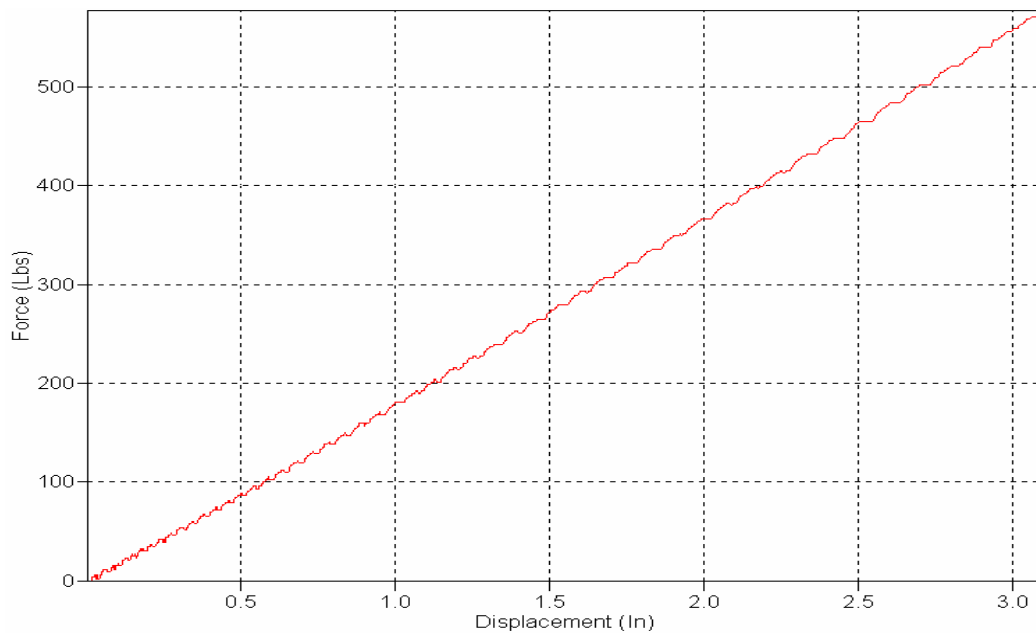

figure:12
**Raw Force vs Displacement** (figure:12) This graph shows the collected force values compared to displacement without the internal filtering that is built into the program. All other graphs are filtered to eliminate electronic noise that hurts the repeatability of the data. You may view the raw numeric values by clicking the **copy** button in the **Edit** pull down menu with this graph open, then open an MS Excel spreadsheet and click on **paste**. No numeric data is available on the data page for raw data, To view raw numeric data it must be viewed in Excel.